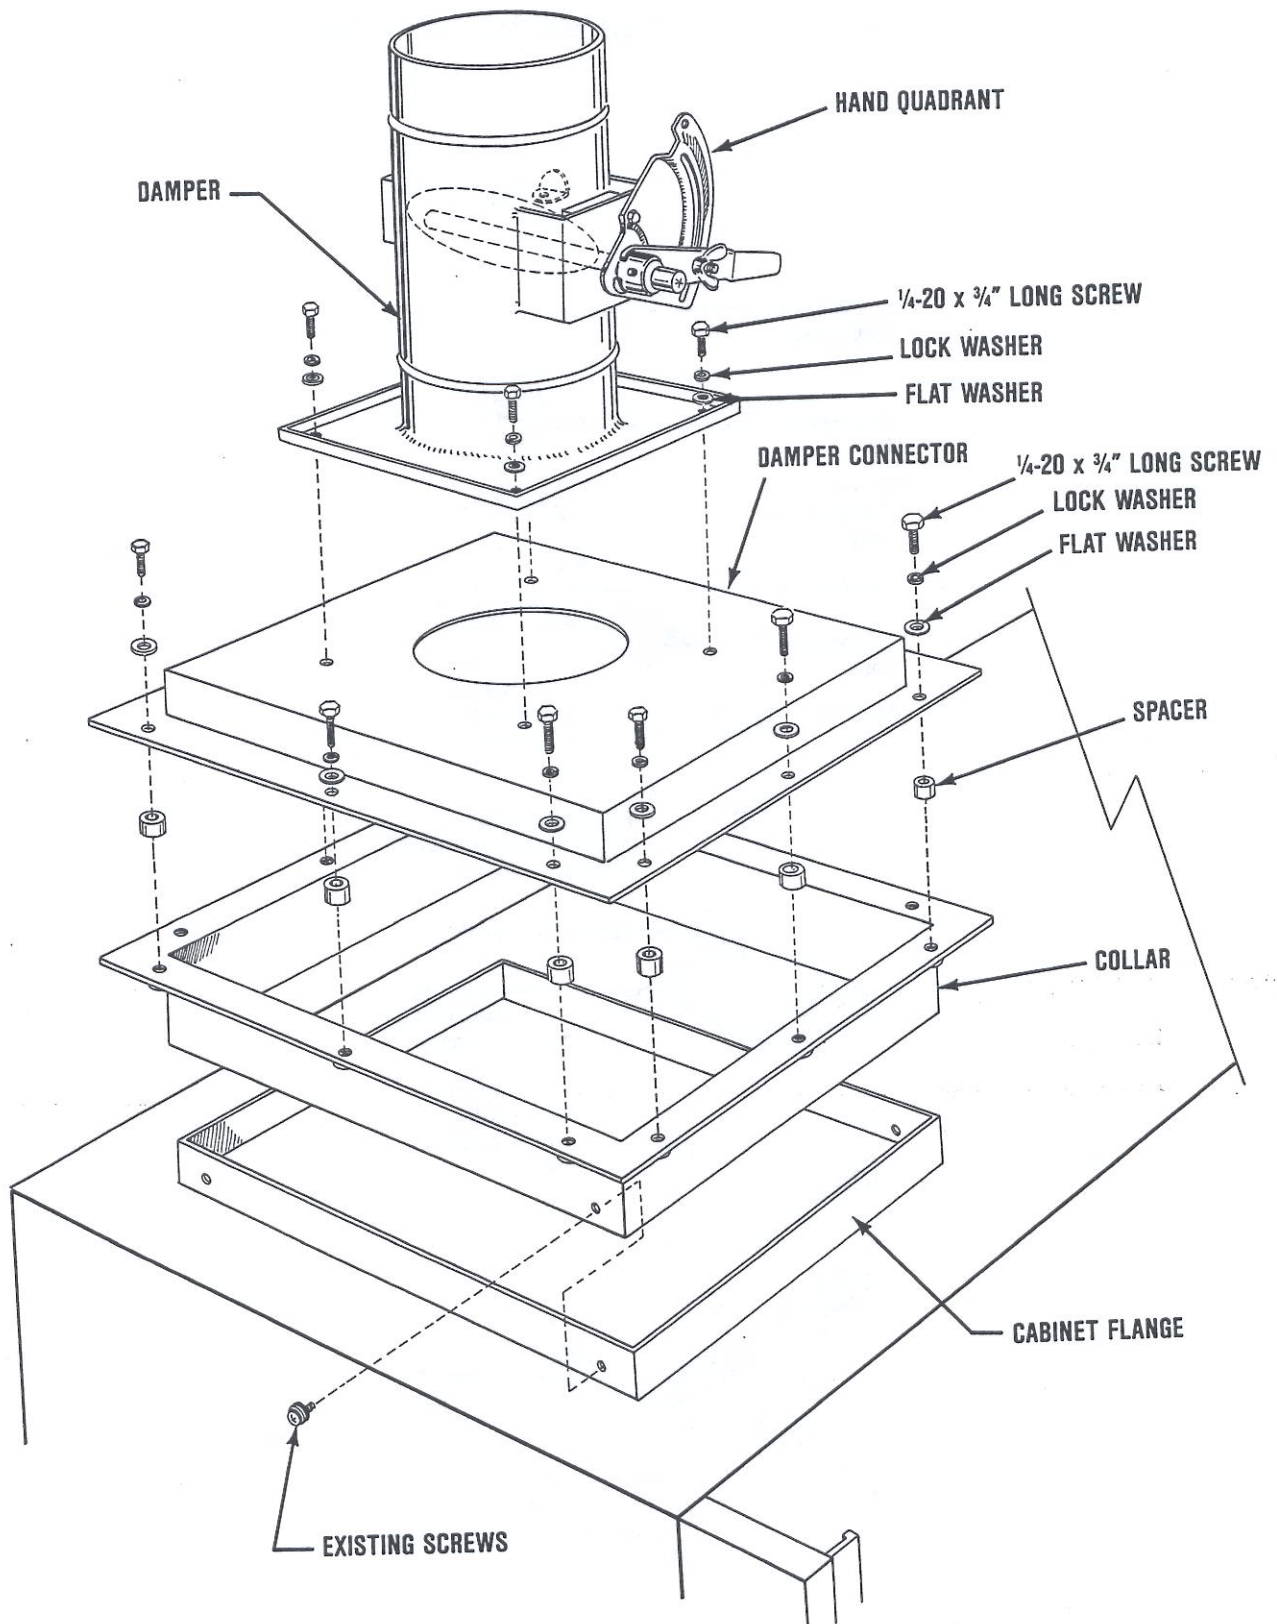

Figure 2
- (2) Slip collar over cabinet flange and use same (4 screws) to secure collar in place. See Figure 2 on page 7.
- (3) Attach damper to damper connector using (4) flat washers, (4) lock washers and (4) 1/4-20 x 1 inch along screws. See Figure 2.
- (4) Place spacers between damper connector and collar. Attach damper connector to collar using remaining flat washers, lock washers and screws. (NOTE: Attach with hand quadrant facing front of cabinet.) See Figure 2.